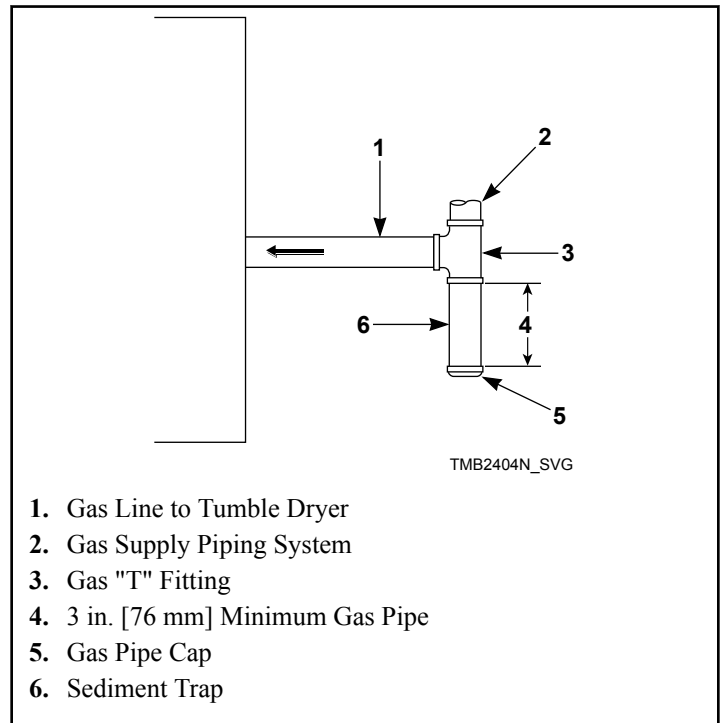

Figure 11
The following must be furnished and installed by the customer for the gas service line to each tumble dryer. Refer to *Figure 11*.
- Supply pressure taps (1/8 NPT minimum) (refer to *Figure 11*)